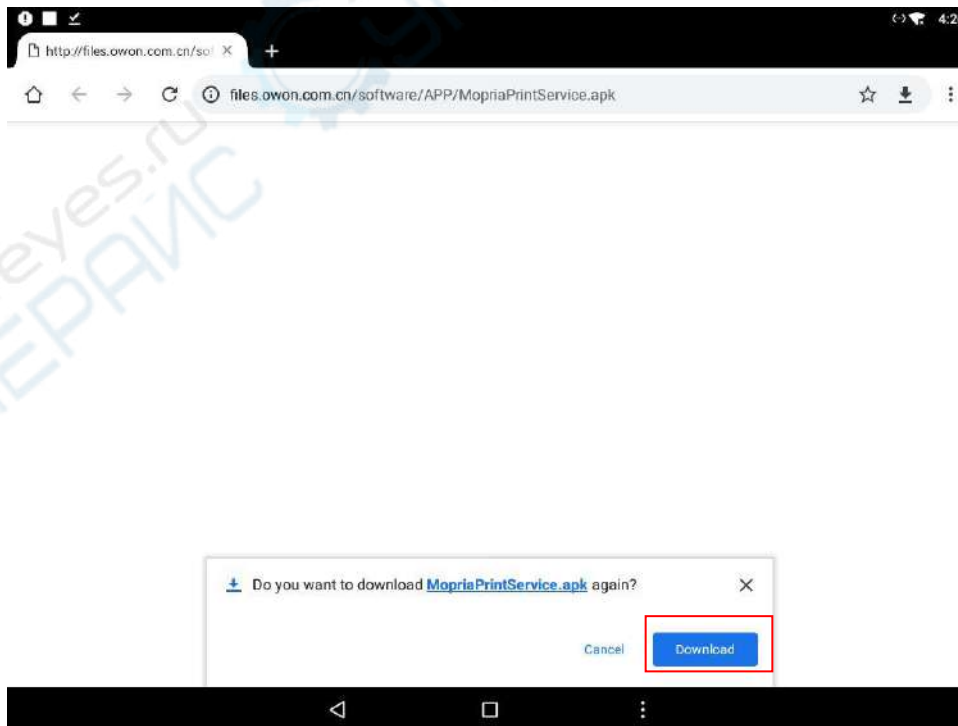

Figure 1
- 2、 In official website install print app, steps as shown in Figure1 to Figure 5.
- ① Click download to download installation package, as shown in Figure 1.